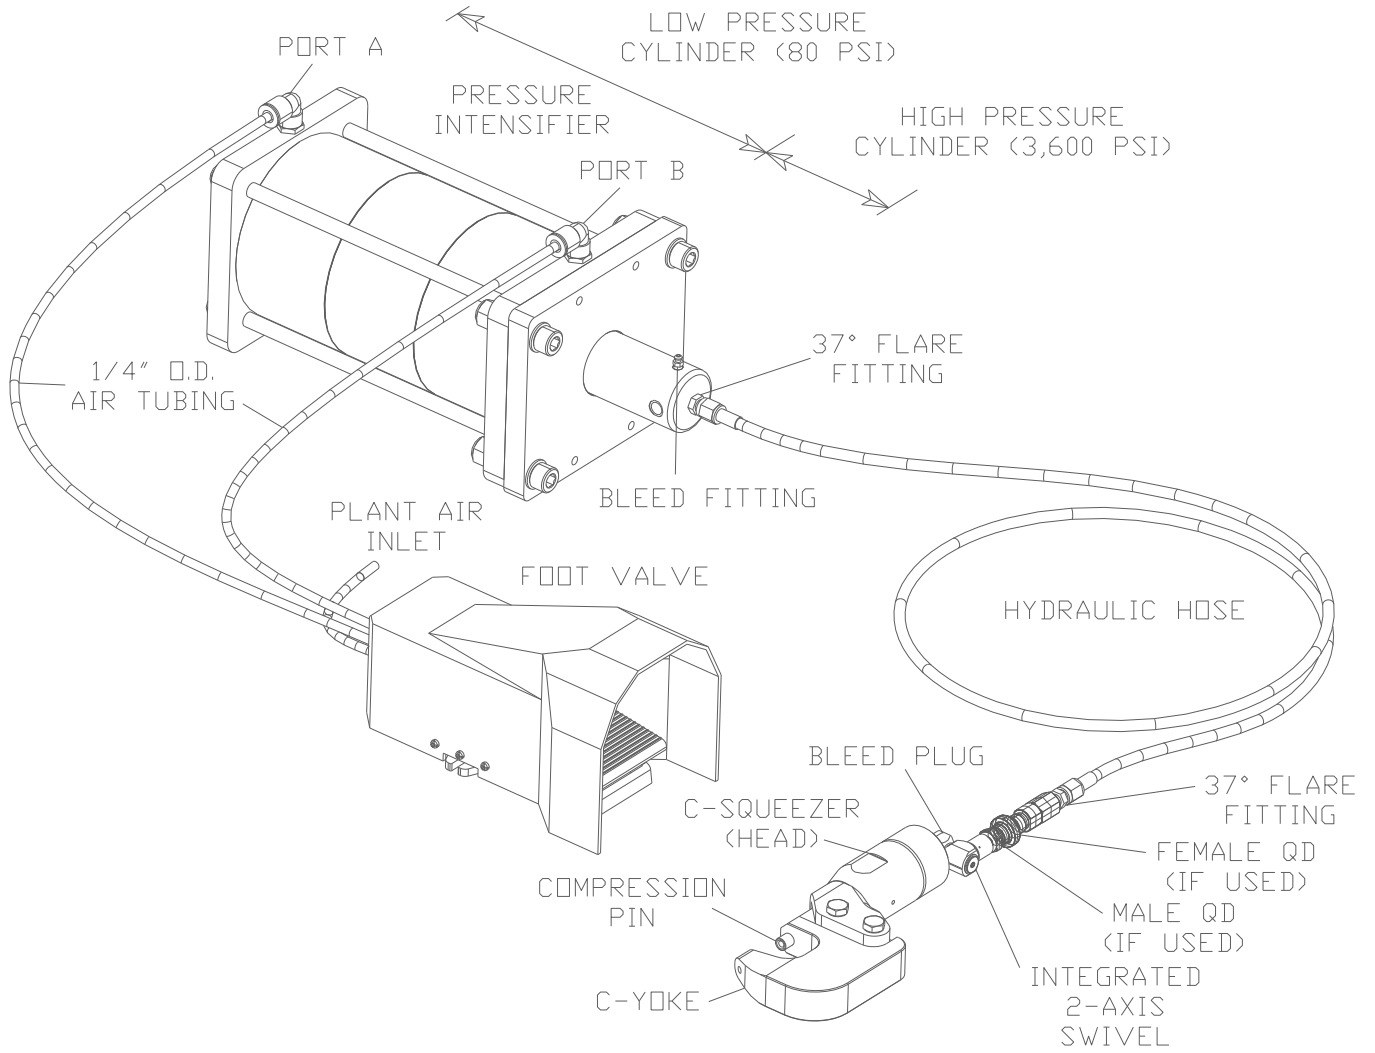

FIGURE 8 – SYSTEM SETUP
- 4.5 Refer to Figure 8 for setup of the foot valve.